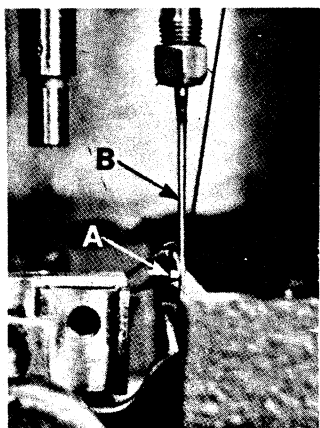

Fig. 8
The looper is set correctly if, as it moves to the left behind the needle, its point (A, Fig. 8) clears the rear of needle (B) by .002 inch (.051mm).